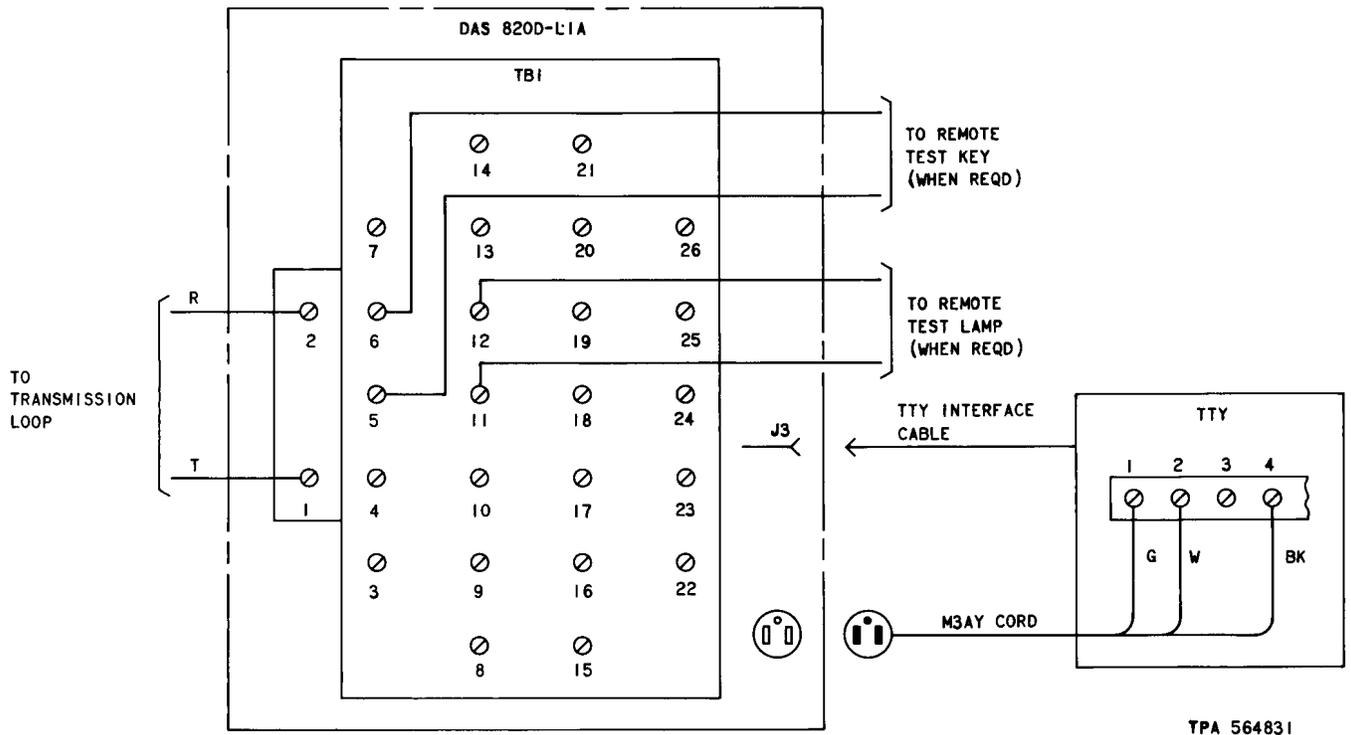

Fig. 6—Interconnection Diagram for Data Set 109E-Type Single PL Station Using Data Auxiliary Set 820D-L1A
- (1) Condition the VOM to measure 12 volts dc.
- (2) Connect the positive lead of the VOM to one of the transmission leads.
- (3) Connect the negative lead of the VOM to the other transmission lead.
- (4) If the meter deflects downscale, reverse the VOM leads.
- (5) If the meter deflects upscale, the transmission lead connected to the positive VOM lead will be the positive transmission lead; the lead connected to the negative VOM lead will be the negative transmission lead. Tag these leads.
- (6) Disconnect VOM leads.
- (7) Connect the negative transmission lead to terminal 2 of TB1 as shown in Fig. 6.
- (8) Condition to VOM to measure 12 mA dc.
- (9) Connect the negative VOM lead to terminal 1 of TB1.
- (10) Connect the positive VOM lead to the disconnected transmission lead.